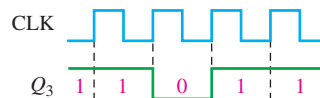

FIGURE 8–63
34. You have found that the bidirectional register in Figure 8–17 will shift data right but not left. What is the most likely fault?